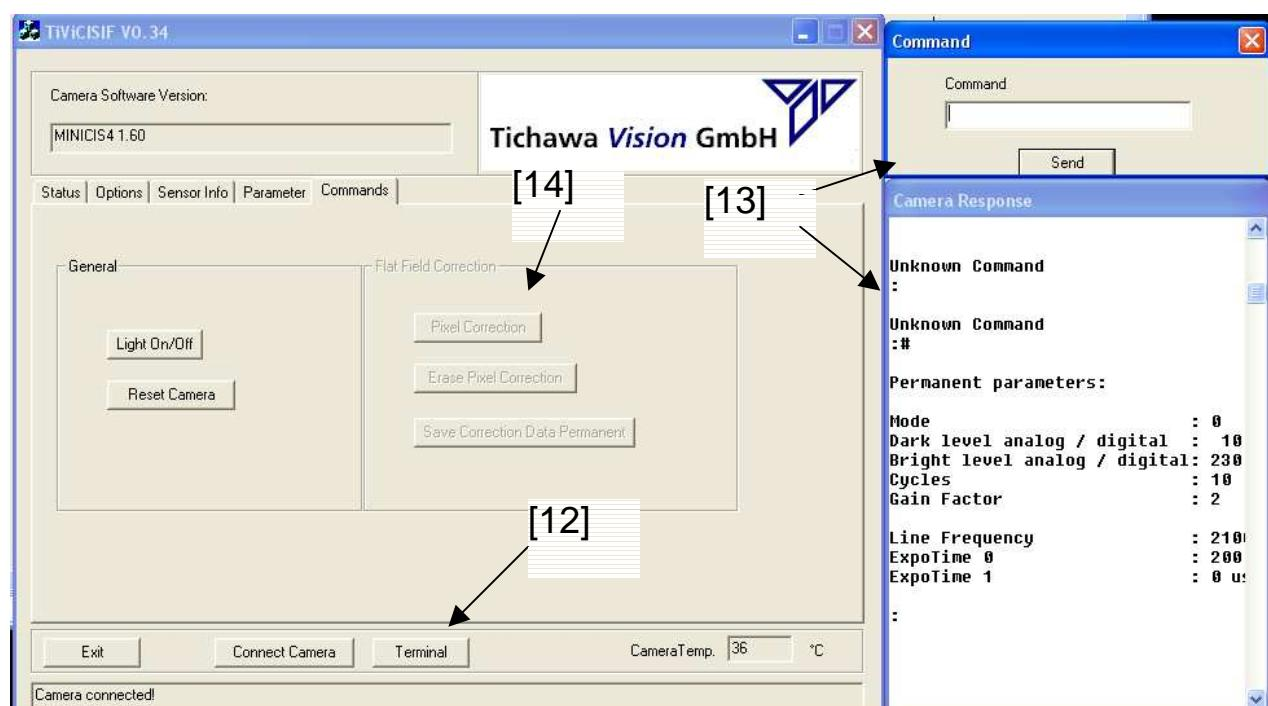

Figure 5 – Commands and Terminal
- l) The last menu is the command menu. Here it's possible to turn the light on/off and to reboot the camera. Also the terminal is over the terminal button [12] (**figure 5**) available where you could type in the commands directly. More about commands in 3.3 of the documentation. The terminal [13] (**figure 5**) works like a usally terminal software i.e. hyperterminal. The grayed-out buttons [14] (**figure 5**) are currently not available.